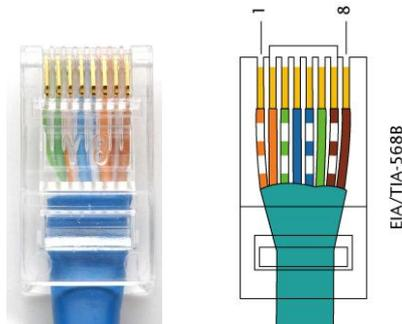

Figure 3-19 Diagram of RS485-1/2 wiring
(2) The wires are labeled 1~8 from left to right, as shown in Figure 3-19: